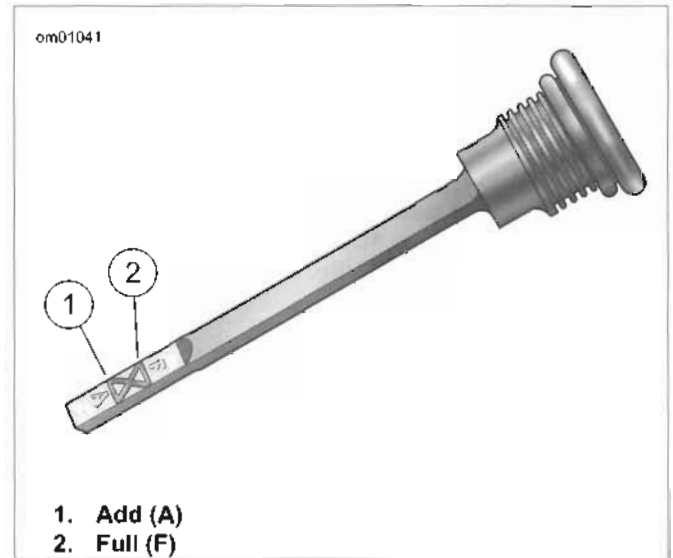

Figure 1-14. Transmission Dipstick Lubricant Level
4. See Figure 1-14. Remove dipstick. Check lubricant level on dipstick.